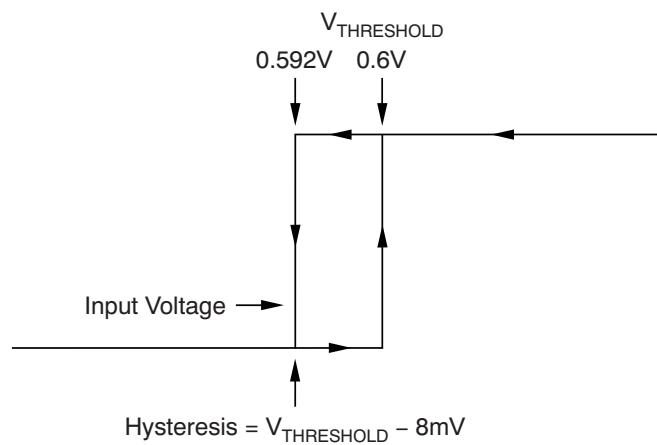

Figure 1. Typical Comparator Hysteresis
- (1) Hysteresis refers to the threshold (the threshold specification applies to a rising edge of a noninverting input) of a falling edge on the noninverting input of the comparator; refer to Figure 1.
- (2) Specified by design.
- (3) V_{ID} refers to the differential voltage at the comparator inputs.
- (4) Open-drain output can be pulled to the range of 2.7 to 18 V, regardless of V_S .
- (5) The comparator response time specified is the interval between the input step function and the instant when the output crosses 1.4 V.
- (6) The $\overline{\text{RESET}}$ input has an internal 2 $\text{M}\Omega$ (typical) pull-down. Leaving $\overline{\text{RESET}}$ open results in a LOW state, with transparent comparator operation.